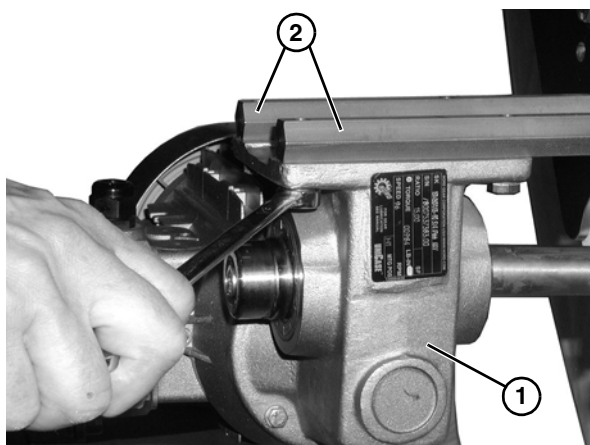

Figure 19
4. Attach the gearmotor assembly (**Figure 19, item 1**) to the gearhead mounting posts (**Figure 19, item 2**).